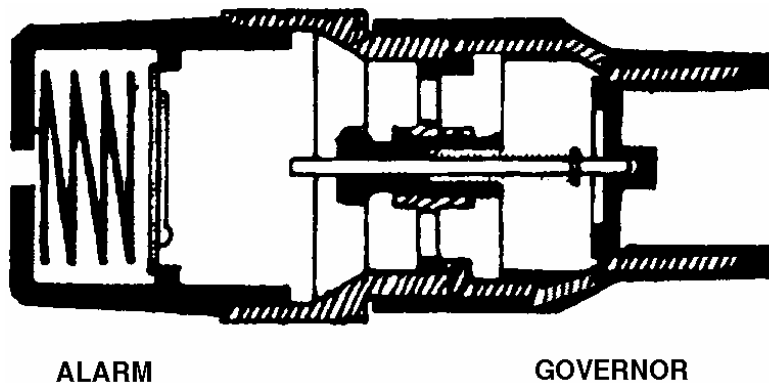

Figure 1-10. Overpressure governor.
(7) Overpressure governor. The overpressure governor shown in figure 1-10 prevents the development of breathing circuit pressures in excess of 30cmH₂O. Overpressures are vented to the atmosphere through the governor. A mechanical alarm is built into the governor. The alarm is a pneumatically-operated split reed which is allowed to float off its seat as overpressures are vented to the atmosphere when the flow setting on the reed is exceeded. As the reed vibrates, a tone sounds.